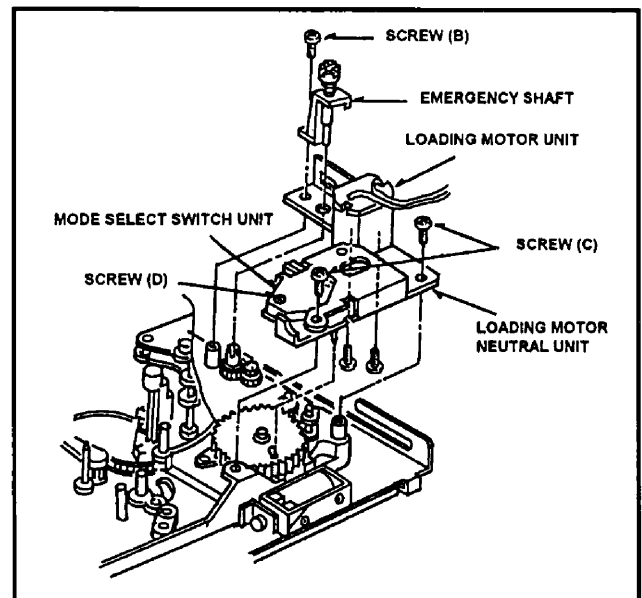

Fig.M12
3. Remove the Pinch Solenoid Unit and Loading Motor Neutral Unit(Refer to item 4 to 6).
4. Remove the screw(D)to remove the Mode Select Switch Unit from Loading Motor Neutral Unit as shown in Figure M12.